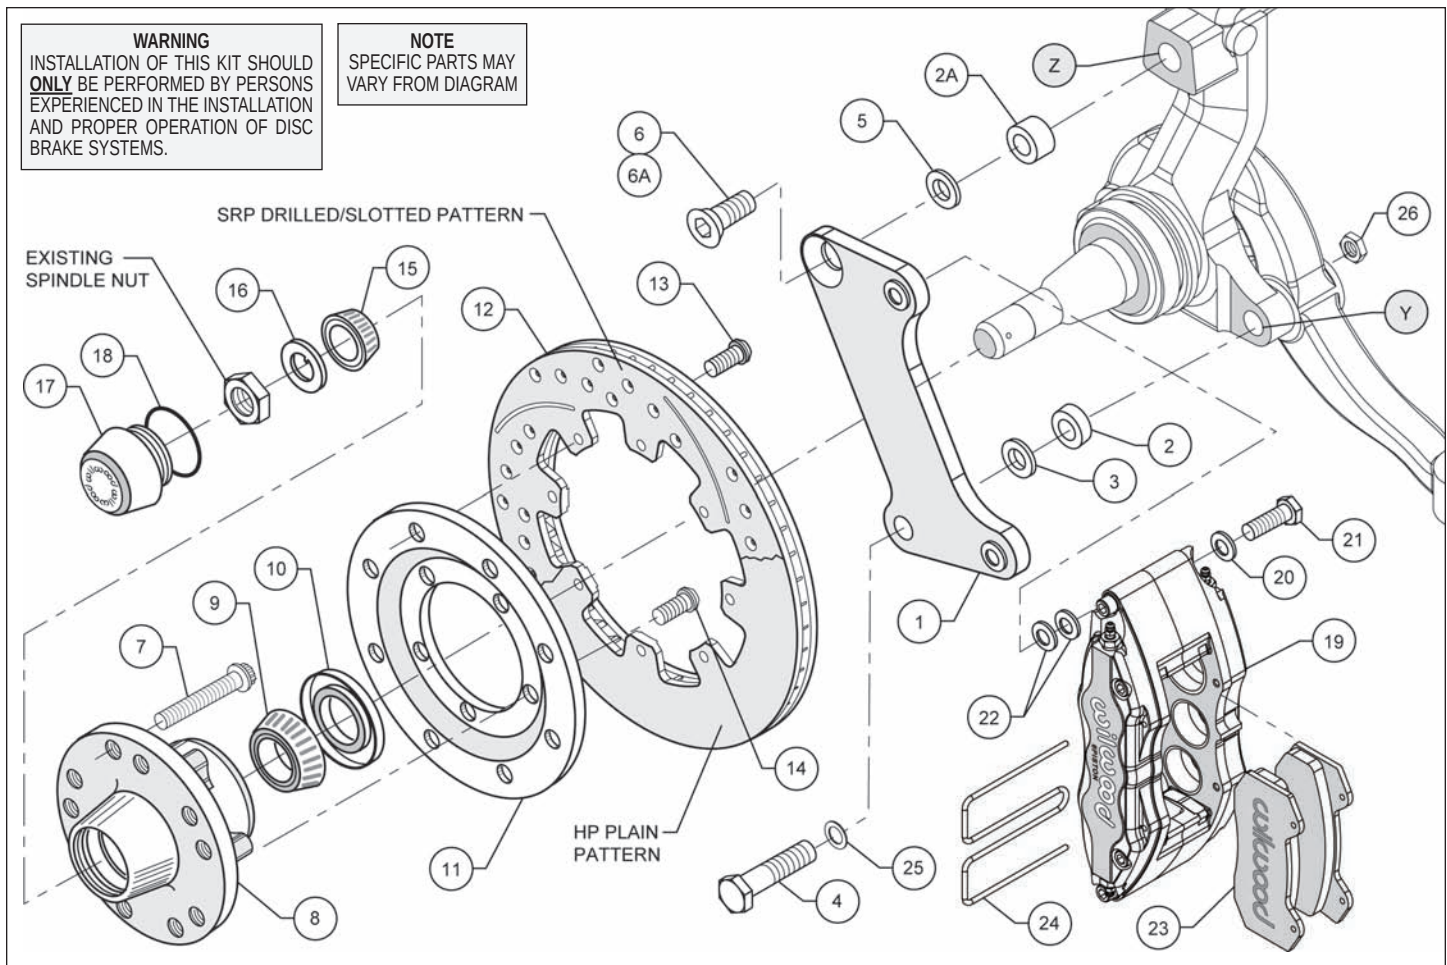
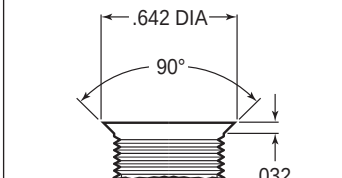

Figure 1. Typical Installation Configuration
Figure 3. Drill and Tap Detail
Assembly Instructions (numbers in parenthesis refer to the parts list and Figure 1 on the preceding page): **CAUTION:** *All mounting bolts must fully engage clinch nuts.* Be sure to check that all bolts are either flush or protruding through flanged side of clinch nut after shimming, Figure 4.
- NOTE:** 1964-66 spindles may require the following modifications (reference Figure 1 and Figure 3): Top anchor pin hole (Z) must be drilled and tapped to the dimensions as outlined in Figure 3. Bottom rear steering arm bolt hole (Y) in the spindle and steering arm must be enlarged to .50" by drilling.
- Install wheel studs (7) into the hub (8), Photo 1. Torque to 77 ft-lb. **NOTE:** *There are two five lug patterns in the hub (5 x 4.50 and 5 x 4.75).* Ensure the correct hub stud pattern is being used to fit the wheel application.
- Pack the large inner bearing cone (9) with high temperature disc brake bearing grease (available from your local auto parts store) and install into the backside of the hub (8), Photo 2.
- Install the grease seal (10) by pressing into the backside of the hub (8), flush with the end of the hub, Photo 2.
- Orient the rotor (12) and the rotor adapter (11) as shown in Figure 1 and Photo 3. Attach the rotor to the adapter using bolts (13). Using an alternating sequence, apply red *Loctite*® 271 to the threads, and torque to 25 ft-lb.
- Mount the adapter/rotor assembly (11/12) to the hub (8) using bolts (14), as shown in Figure 1 and Photo 4. Using an alternating sequence, apply red *Loctite*® 271 to the threads, and torque to 55 ft-lb.
- Attach caliper mounting bracket (1) to spindle face using lower bolt (4), washer (25), and a .090" thick spacer (2) positioned between the bracket and the spindle face, as shown in Figure 1 and Photo 5. Secure bolt on the backside of the steering arm with nut (26). Finger tighten. Install upper bolt (6) (for drum spindle) or bolt (6A) with spacer (2A) between bracket and spindle (for disc brake spindle), Photo 6. Ensure that the flanged heads of the clinch nuts in the bracket are facing outboard, Photo 6. Tighten the mounting bolts and temporarily install the new hub/rotor assembly (8/12). Check that the bracket is aligned parallel to the rotor, Photo 7. If not, adjust by adding shim washers (3 and/or 5) between spacers (2 and/or 2A) and the bracket, Figure 1. Once the bracket alignment is correct, remove the bolts one at a time, apply red *Loctite*® 271 to bolt threads, and torque upper bolt (6 or 6A) to 120 ft-lb. and lower bolt (4) to 77 ft-lb.
- Screw dust cap (17) into hub (8). Friction created by the o-ring (18) on the dust cap keeps it from unscrewing. **NOTE:** *The O.D. of the existing OEM spindle washer may be larger than the I.D. of the dust cap not allowing it to seat against the hub face. Therefore, use the spindle washer (16) supplied with the kit instead of the OEM washer.*
- **NOTE:** *Please reference the caution statement at the beginning of the assembly instructions. This kit contains distinct right and left hand calipers that must be mounted in a specific direction, as described below.* Mount the caliper (19) onto the caliper bracket (1) using bolts (21) and washers (20), as shown in Figure 1. Initially place two .035" thick shims (22) on each bolt between the caliper and the bracket, Photo 9. Ensure that the caliper is mounted so the largest pistons are at the rotor exit end of the caliper, in relation to the direction of rotor rotation. Temporarily tighten the mounting bolts and view the rotor (12) through the top opening of the caliper. The rotor should be centered in the caliper, Photo 10. If not, adjust by adding or subtracting shims (22) between the bracket and the caliper. Always use the same amount of shims on each of the two mounting bolts. **NOTE:** *The end of the bolt must be flush with or slightly protruding from the head of the clinch nut in the bracket.* If necessary, place spare shims between the washer and the caliper mounting ear to achieve the proper clinch nut engagement, as shown in Figure 4. Once the caliper alignment and clinch nut engagement are correct, remove the bolts one at a time, apply red *Loctite*® 271 to the threads, and torque to 40 ft-lb.